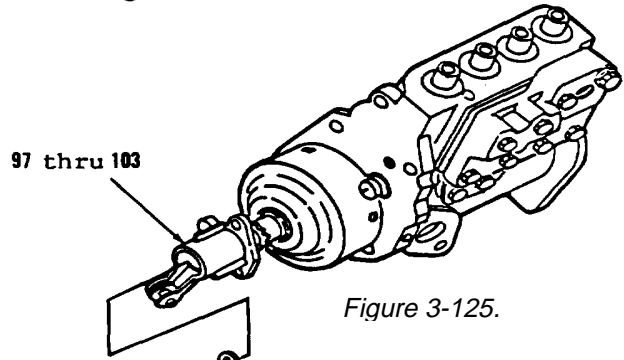
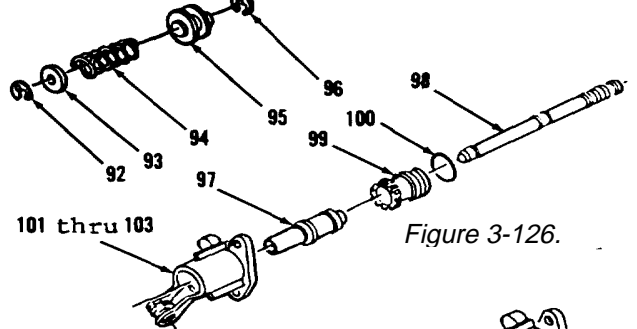
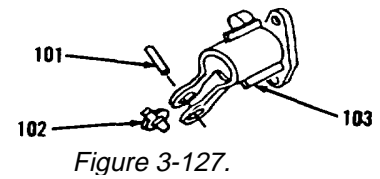

Figure 3-125.
Figure 3-126.
Figure 3-127.
2. Remove ring (92), seat (93), spring (94), sleeve (95) and items 97 thru 103 as an assembly (Figure 3-125).
3. Remove ring (96) from items 97 thru 103. Rotate items 97 thru 103 to disengage.
4. Remove valve (97), piston (98) and sleeve (99, Figure 3-126).
5. Remove preformed packing (100) from sleeve (99). Discard preformed packing (100).
6. Remove items 101 thru 103 as an assembly.
7. Using hammer and punch, drive pin (101) from cylinder (103). Remove lever (102, Figure 3-127).